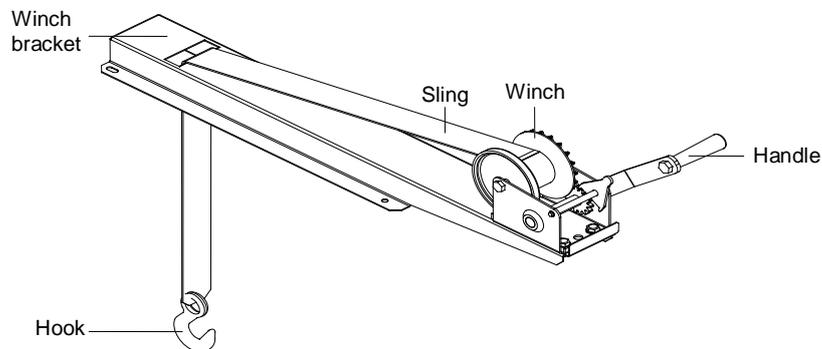
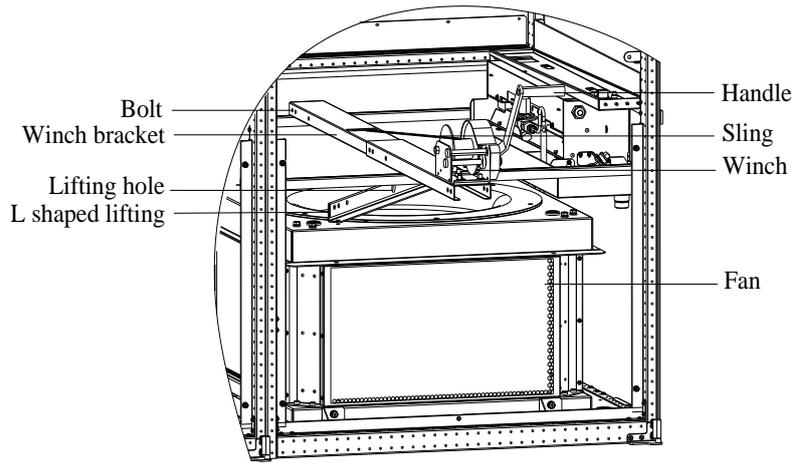

Figure 3-13 Fan elevator assembly (winch mode)
Figure 3-14 Installing winch bracket
You must lower all EC fans of the downflow unit before commissioning. The downflow unit has been equipped with a lowering tool when it is shipped. The lowering tool that uses winch is shown in Figure 3-13. It mainly includes a hand winch, a winch bracket, a hook, a sling, and a handle, and also an L shaped lifting component in Figure 3-14.
1. Install lift and lowering kit for fan: Open the unit maintenance cover, check the fixing bolts (see Figure 3-14, totally 2 PCS) of the L shaped lifting component to make sure that it is fixed properly, and then install the fixing bolts (totally 4 PCS) of the winch bracket, as shown in Figure 3-14;
2. Turn the handle and use the hook of the winch to hook the middle round hole (see Figure 3-14) of the L shaped lifting component. Adjust the handle until the sling is completely tight.
6. Remove the hook from the L shaped lifting component, turn the handle clockwise, tidy the sling and remove the fixing bolts (see Figure 3-14, totally 4 PCS) of the winch bracket, and take out the winch and the bracket assembly.
7. Remove the fixing bolts (see Figure 3-14, totally 2 PCS) of the L shaped lifting component, and take out the L shaped lifting component.